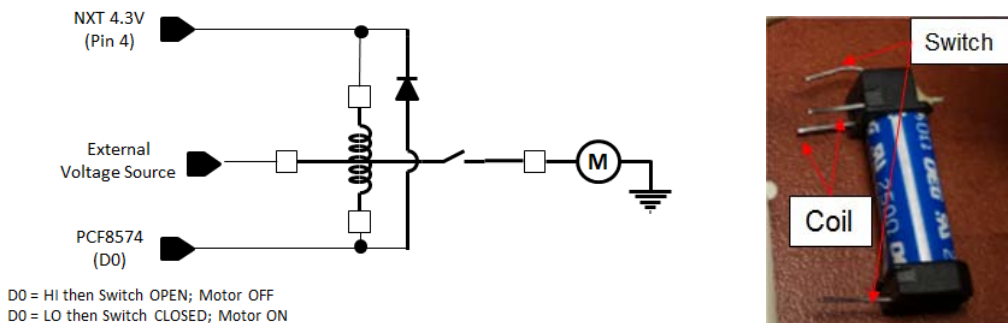
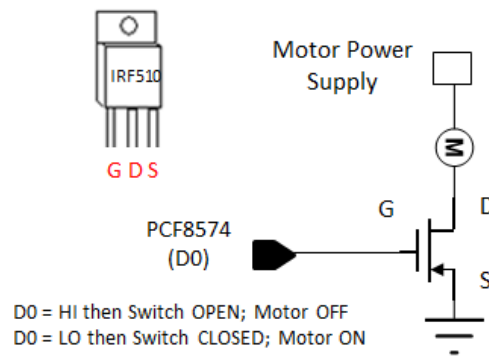
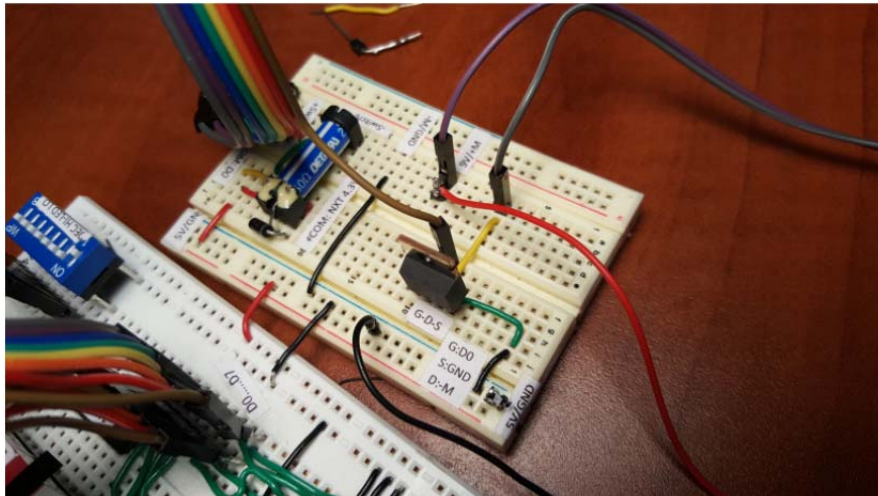

Fig. 1A: Interfacing a reed relay to the NXT using one PCF8574 digital output line.
Fig. 2A: Interfacing a IRF510 MOSFET to NXT using one of the PCF8574's digital output lines.
Fig. 2B: The IRF510 MOSFET can simply insert into the solderless breadboard.
Step 1: With the PCF8574 circuit constructed from before, wire up the schematic (**Fig. 1A**). In this circuit, only one digital (output) line (D0) is needed. Typically, a SPST (single pole, single throw) relay has 4 pins. Two of them represent the coils' ends. The remaining two refer to the ends of switch.
The toy DC motor used in **Fig. 1A** can easily draw over 1 A. Since the PCF8574 can only source about 20 mA, an external power supply is needed. A 9V battery's +ve terminal connected to one end of the relay's switch, and the -ve one connects to NXT's GND pin. This ties all ground lines together.
Step 1: Breadboard the schematic in **Fig. 2A**, noting the IRF510's pin labels (**Fig. 2B**)
Fig. 2A does not use any diodes (and capacitors) in contrast to **Fig. 1A**. While the circuit in **Fig. 2A** will work, the back-EMF from the motor could kick-back enough current to damage the digital line. The analogy is back-wash in hydraulics. A capacitor across the motor leads and a diode will prevent such back-wash to occur.